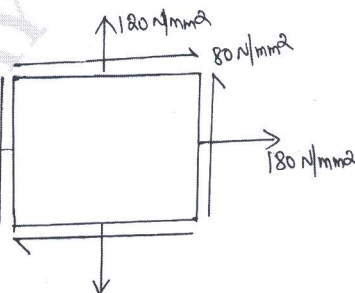

Fig Q3(b)
- b. The state of stress at a point in a strained material of shown in Fig Q3(b). Determine the principle planes, principles stresses, maximum shear stress and its directions.